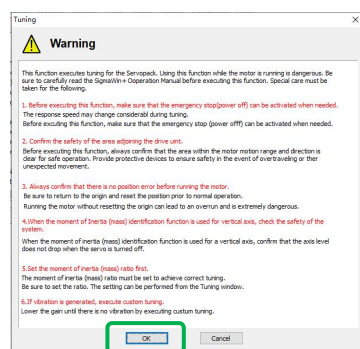

Figure 6
3. Enter the [Tuning] window and click the [Execute] button (Figure 6).